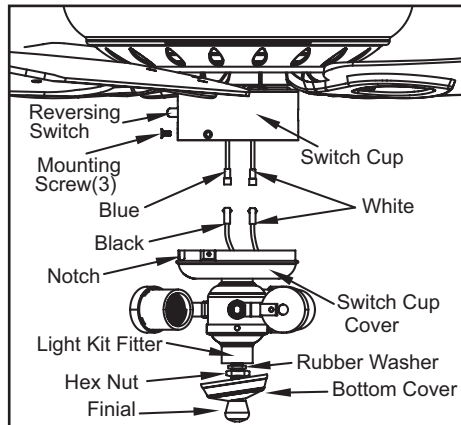

Figure 16
1. Remove the three mounting screws on the switch cup cover of the light fitter (Figure 16).
3. Connect the wires from the light kit fitter to the wires from the switch cup of the fan motor assembly by connecting the molded adaptor plugs together (blue to black, white to white). Carefully tuck all wires and splices into the switch cup (Figure 16).
4. Align the three screw holes in the switch cup cover with the screw holes in the switch cup. Position the switch cup cover onto the switch cup and install the three screws that were loosened on step 1. Tighten the three screws (Figure 16).